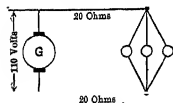

FIG. 81. Group of 3 lamps supplied by generator.
**Prob. 49-3.** If each of the three lamps in Fig. 81 is a carbon lamp like the one of Prob. 48-3, what current will be drawn from the generator?
**Prob. 50-3.** If each of the three lamps of Fig. 81 is a tungsten lamp like the one in Prob. 50-1, what current will be drawn from the generator?
**Prob. 51-3.** If one of the lamps in Fig. 81 is a carbon lamp like the one of Prob. 48-3 and the other two are tungsten lamps like those of Prob. 50-1, what current will be taken from the generator and what will be the voltage at the lamps?